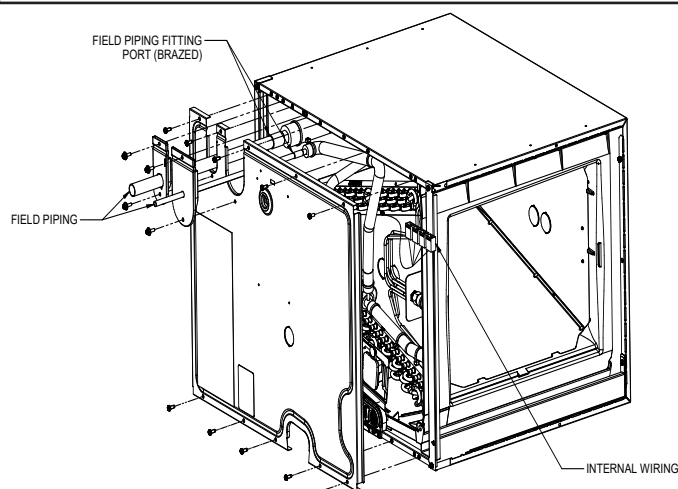

Figure 11
- Remove Front panel while cautiously guiding component wiring back through panel wireway unscrew two grommets both gas and liquid tubing, slide those grommets along field tubing. See figure 11.